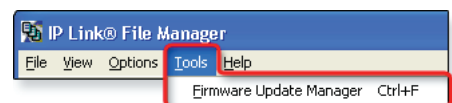

Figure 46. Selecting Tools > Firmware Update Manager
5. Click on the **Tools** menu and select **Firmware Update Manager** (see figure 46).